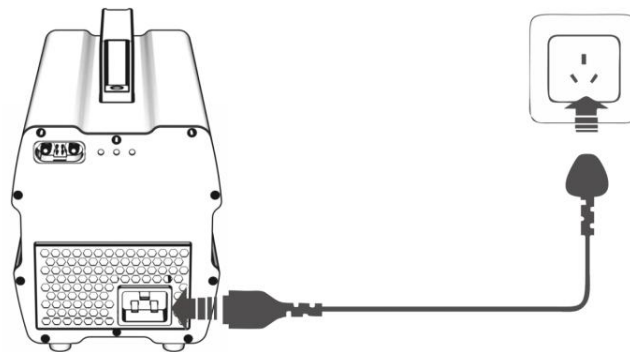

Figure 1-11
Step 1: Insert the power cable to the charger's power port. As shown in figure 1-11.